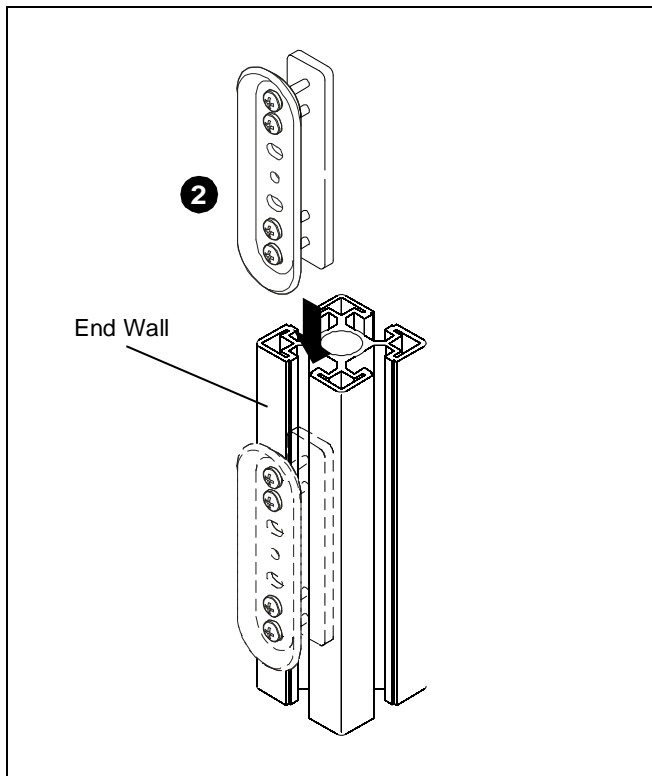

Figure 2
2. Orient mounting plate with wall plate (B) over mounting slot in wall and slide into wall making certain wall is between plates. (See Figure 2)
3. Position so that mounting plate is located in desired display mounting location. (See Figure 2)
4. Secure wall plate to wall by tightening four screws (A). (See Figure 2)